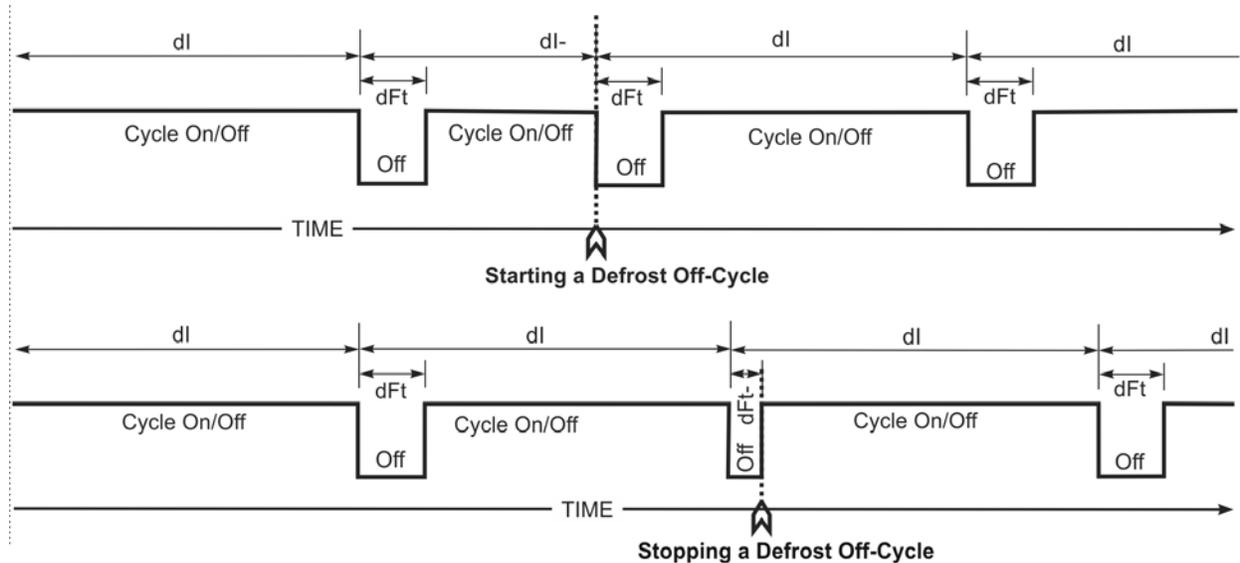

Figure 11: Starting and Stopping a dFt: Behavior Using SdF Parameter and Momentary Contact Switch
2. Or, change the SdF value to 0 (zero) during a dFt to stop a defrost cycle and return the control to normal On/Off operation. See Figure 11.
2. Each time the momentary contact switch is pressed, the defrost cycle starts or stops depending on whether the defrost cycle is running or not. See Figure 11.